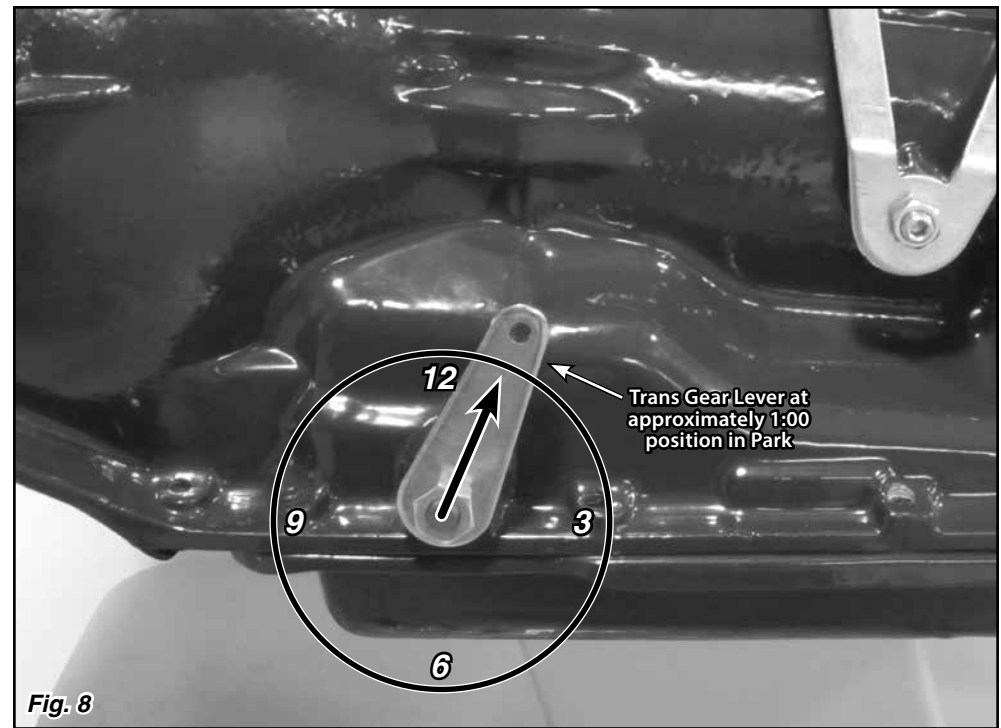

Fig. 8
Step 13: Install the trans gear lever onto the transmission and secure with your original nut. Place the trans gear lever in the Park position with the top of the lever pointing up and slightly towards the rear of the transmission, at about the 1:00 position. **Fig. 8**